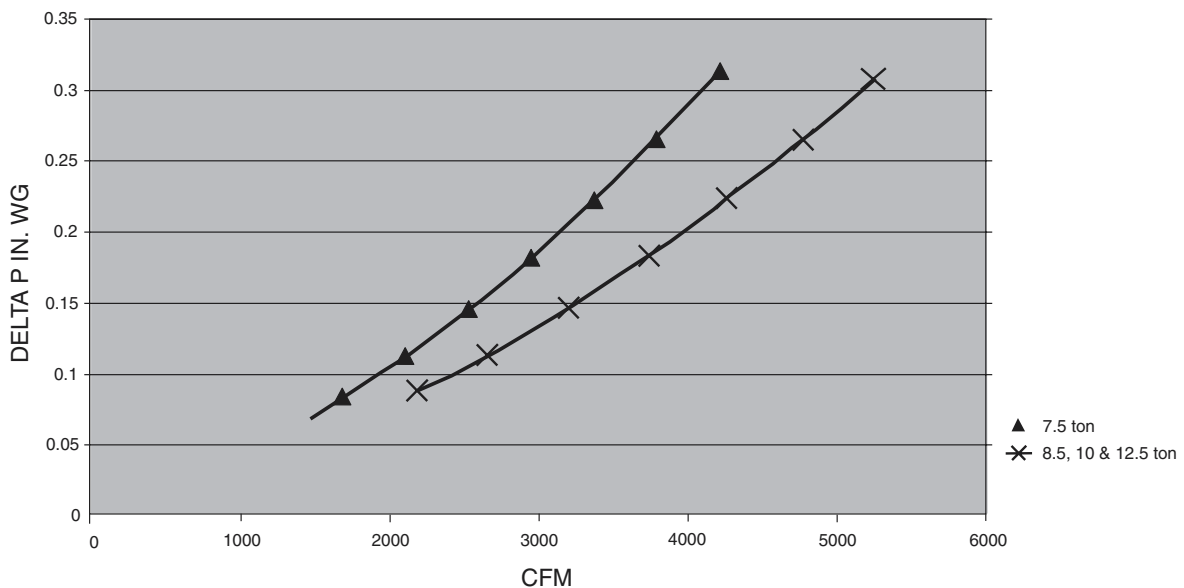

Fig. 36 — Perfect Humidity™ Dehumidification System Static Pressure Drop (in. wg)
Tables 9 and 10 show fan rpm at motor pulley settings for standard and high-static motors. Tables 11 and 12 show evaporator-fan motor data. See Tables 13 and 14 and Fig. 36 for accessory and option static pressure drops. Refer to Tables 15-28 to determine fan speed settings.
2. Values include losses for filters, unit casing, and wet coils. See Tables 13 and 14 and Fig. 36 for accessory/FIOP static pressure information.